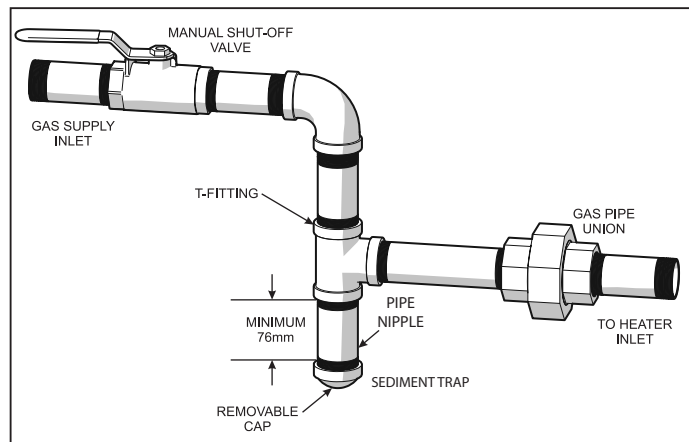

Figure 6. Manual Shut-off Valve and Sediment Trap
- Install a sediment trap and union ahead of the gas controls and outside the heater body. See *Figure 6*.
Do not use flexible appliance connectors on any gas connections unless the connector is CSA approved for outdoor installation, and is marked with the BTUH capacity (which must be equal to or greater than the heater rated input) and the type of gas (Natural or LP). Also, any flexible connectors, such as CSST buried underground must be certified for underground installation and meet all applicable codes. Please note, use of flexible connector still requires the installation of a sediment trap per NFPA 54. See *Figure 6*.